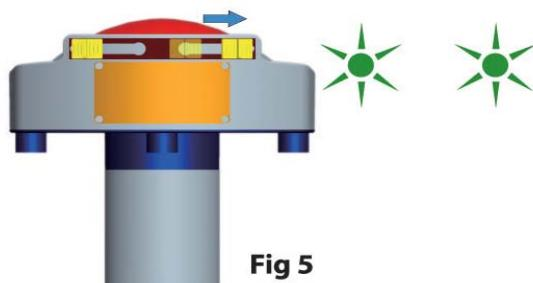

**Fig 4**
2. For clarity, the left button will be referred to as "B1" and right button as "B2" (see Fig. 4).